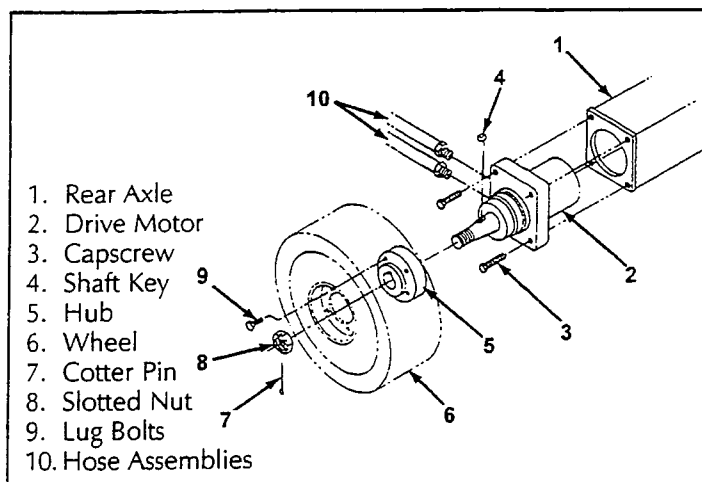

Figure 4-11: Drive Motor Installation
4.9 Hydraulic Drive Motors and Hubs (Figure 4-11)